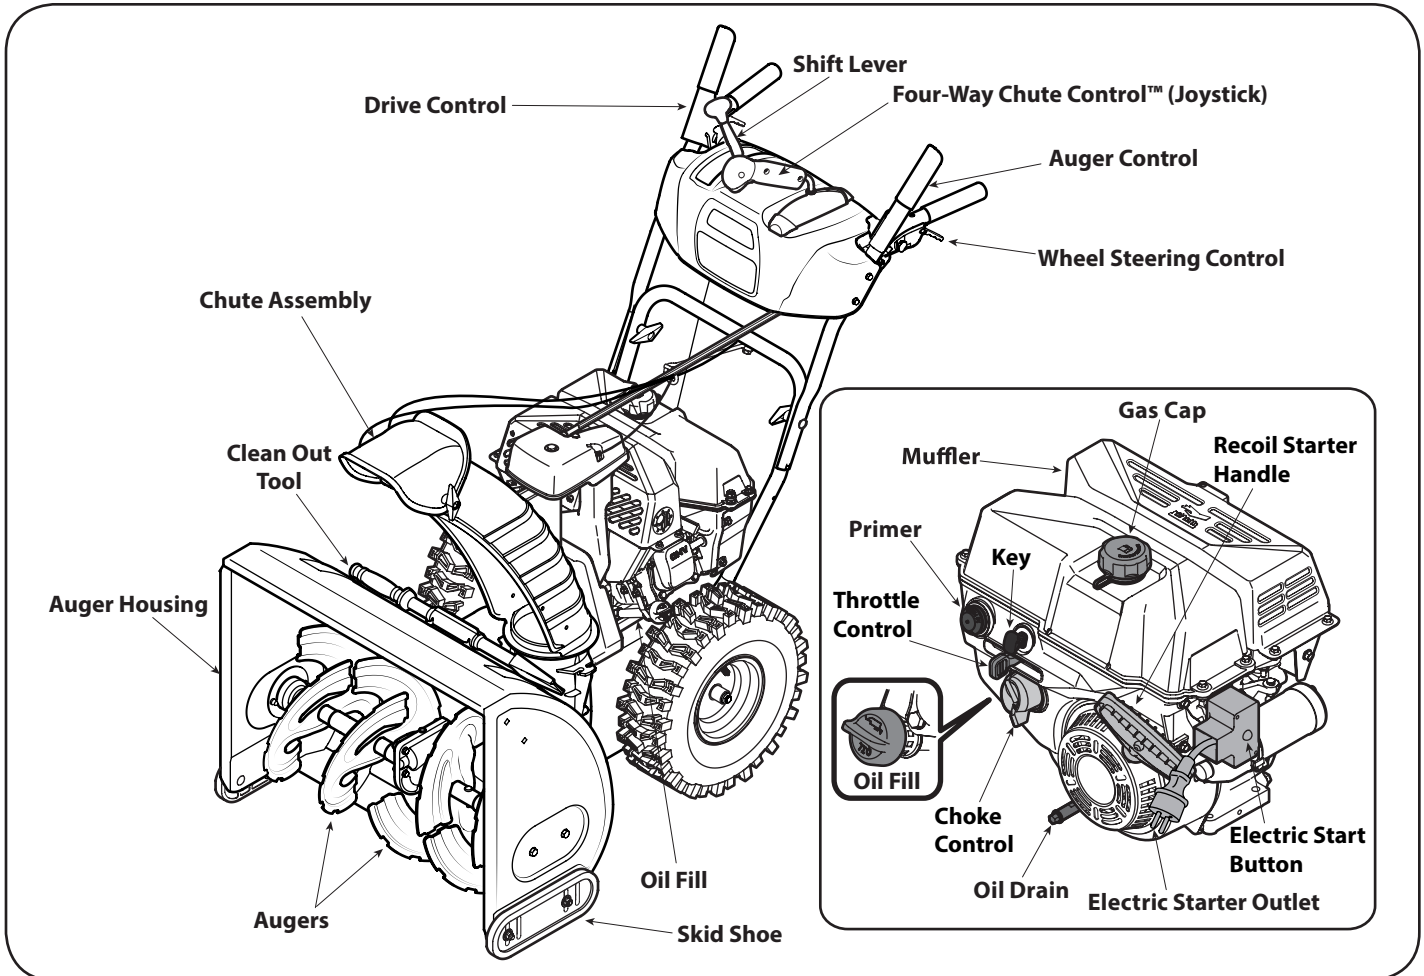

Figure 15
Now that you have set up your snow thrower, it's important to become acquainted with its controls and features. Refer to Figure 15.
2. A fuel level indicator is located in the fuel tank. See Figure 15 inset. Be careful not to overfill. Fill tank until fuel reaches the fuel level indicator to allow space for fuel expansion.